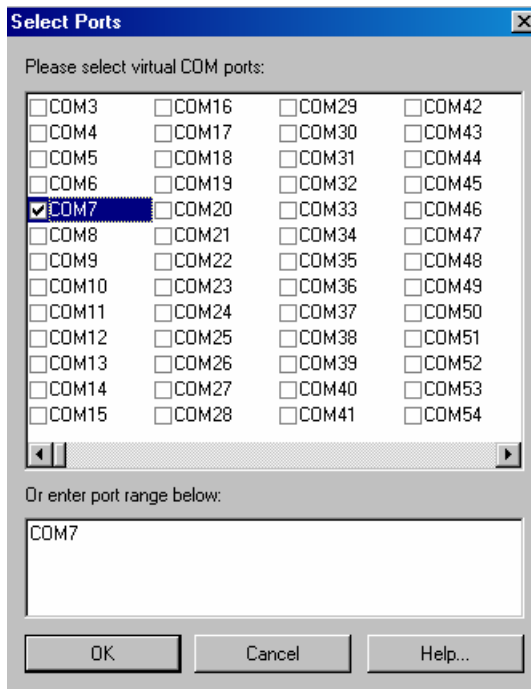

Figure 54: Select Ports Dialog Box
1.	On the control panel, click the SELECT PORTS button to bring up the “select ports” dialog box shown in Figure 54.